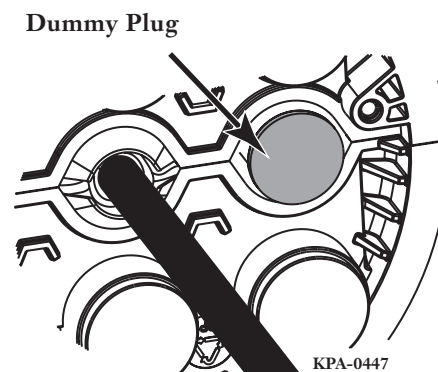

Figure 16 — Dummy Plug
- Step 2** Install dummy plug with the closed end of the plug flush against the outside of the end cap (Figure 16).